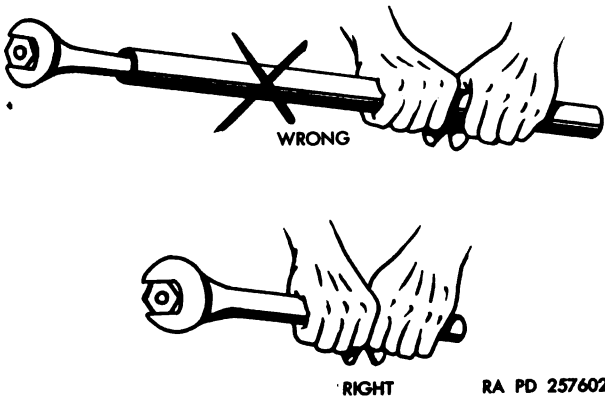

Figure 132. Applying leverage on wrench.
- c. Do not use a pipe, or extend the handle in any way, to increase the leverage on a wrench (fig. 132).